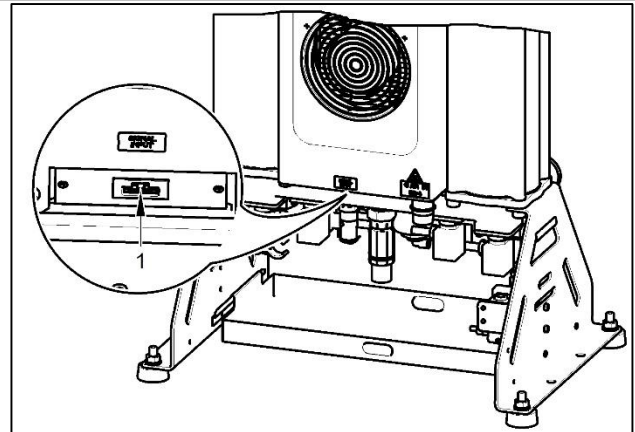

Fig. 16: Connecting the control harness and power cord
- Check the connection of the dryer control and power signal wiring from the compressor. (Fig. 16).